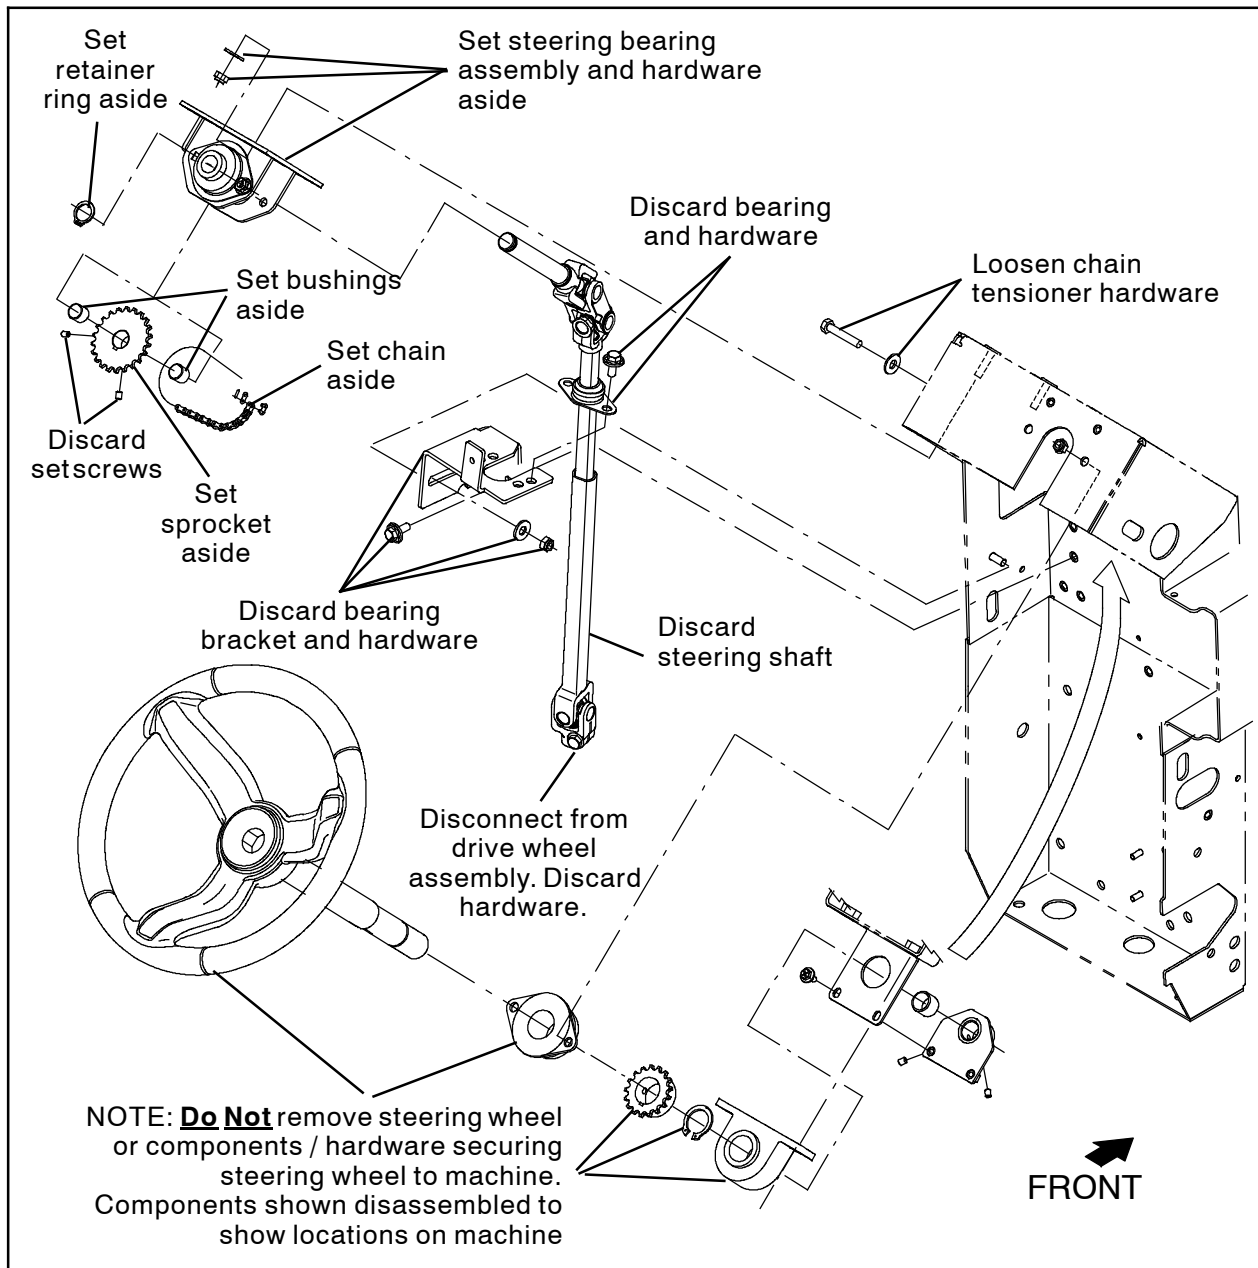
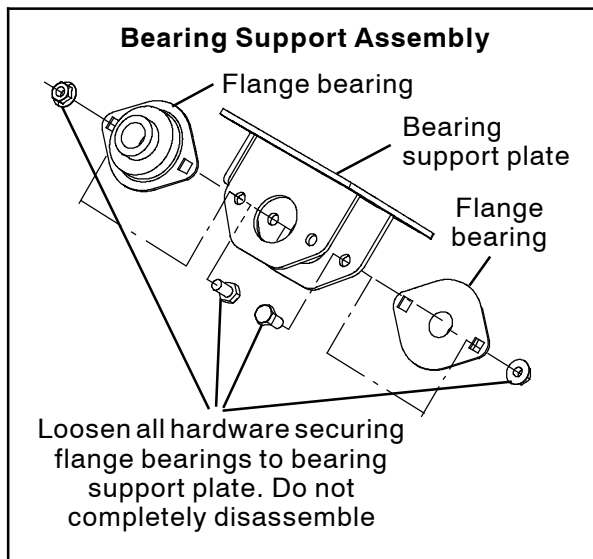

FIG. 2
FIG. 3
2. Remove the chain from the sprocket on the steering wheel assembly and the sprocket in the steering bearing assembly. Set the chain aside. (Fig. 2)
3. Remove the hardware securing the steering bearing assembly to the machine. Set the hardware aside. (Fig. 2)
4. Remove the hardware securing the bearing bracket to the machine. Discard the hardware. (Fig. 2)
5. Disconnect the steering shaft from the steering transmission input shaft. Discard the hardware. (Fig. 2)
6. Remove the steering shaft / items attached to the steering shaft from the machine. Remove the steering bearing assembly from the steering shaft and set steering bearing assembly aside. Discard the steering shaft / and remaining items attached to the steering shaft. (Fig. 2)
7. Remove the steering bearing assembly from the steering shaft and set steering bearing assembly, sprocket, and both bushings aside. Discard the steering shaft / remaining items attached to the steering shaft / set screws. (Fig. 2)
8. Loosen the hardware securing both flange bearings to the bearing support plate. Do not completely disassemble the flange bearings from the bearing support plate. (Fig. 2 / Fig. 3)